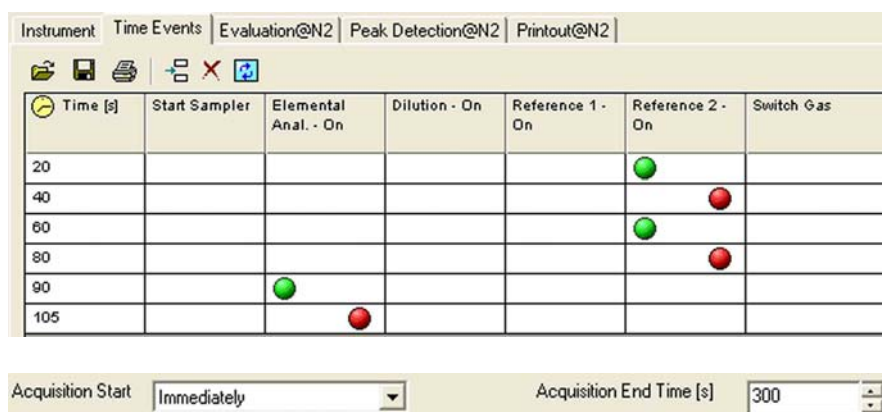
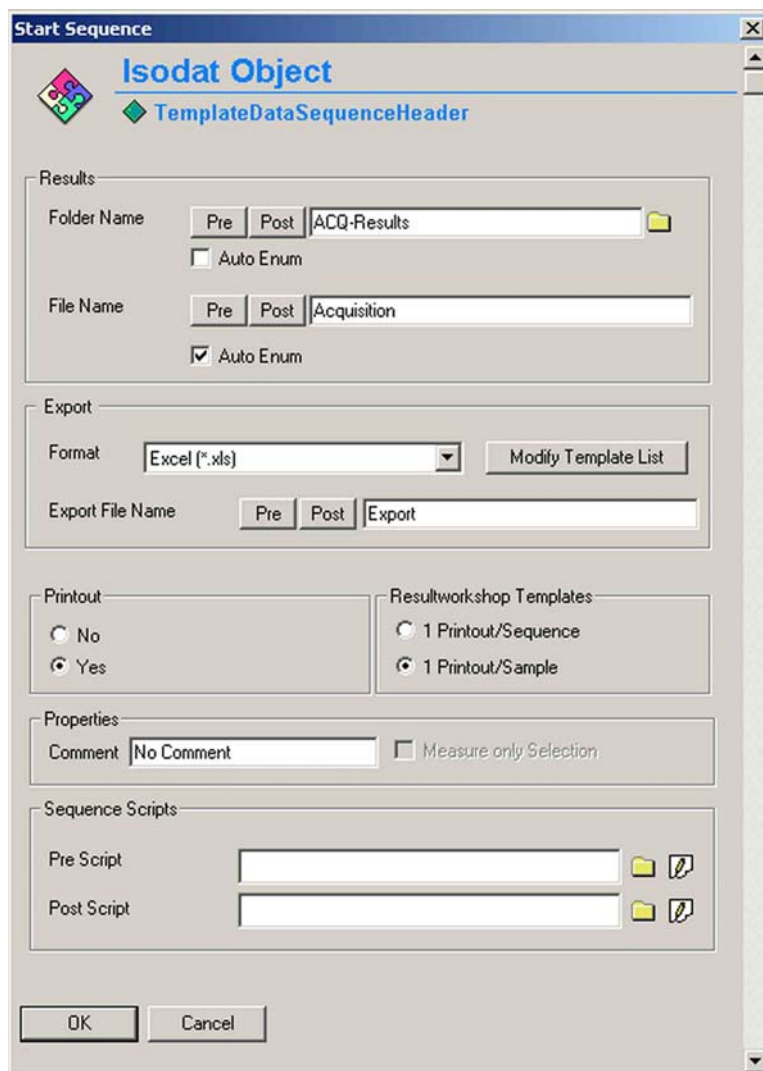
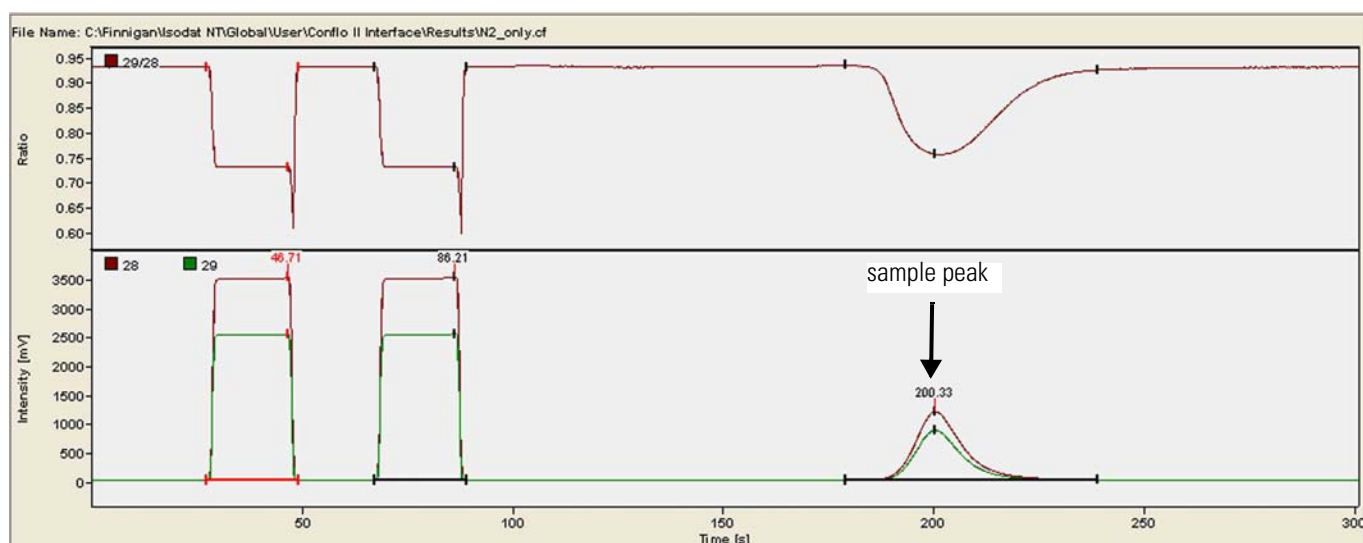

Figure 4-47. Starting nitrogen measurement - Time Events tab
Figure 4-54. Starting nitrogen measurement - defining export and printout parameters
Figure 4-55. Nitrogen measurement - chromatogram
7. Define a folder to save your result files as well as export and printout parameters. See Figure 4-54.
This section summarizes the events that happen during data acquisition. See Figure 4-47, Figure 4-55 and Figure 4-56.
3. Second N₂ reference gas pulse activated at 67 s (duration: 20 s). It is assigned as standard pulse for δ value calculation. See Time column in Figure 4-47 and Peak No. 2 in Figure 4-56.
After finishing data acquisition a data output sheet will be created as defined by the selected Result Workshop template (*.irw). The results are also exported to a spreadsheet file, if the checkbox was marked in Figure 4-54. Figure 4-55 shows the chromatogram and Figure 4-56 the related result grid.